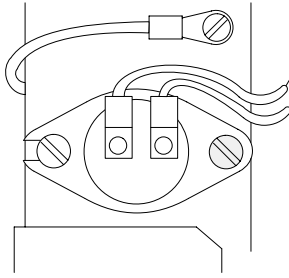

Figure 30 Remove the Thermostat from the Pivot Sleeve
6. See Figure 30. Loosen the one screw securing the thermostat to the pivot sleeve. Slide the thermostat out.